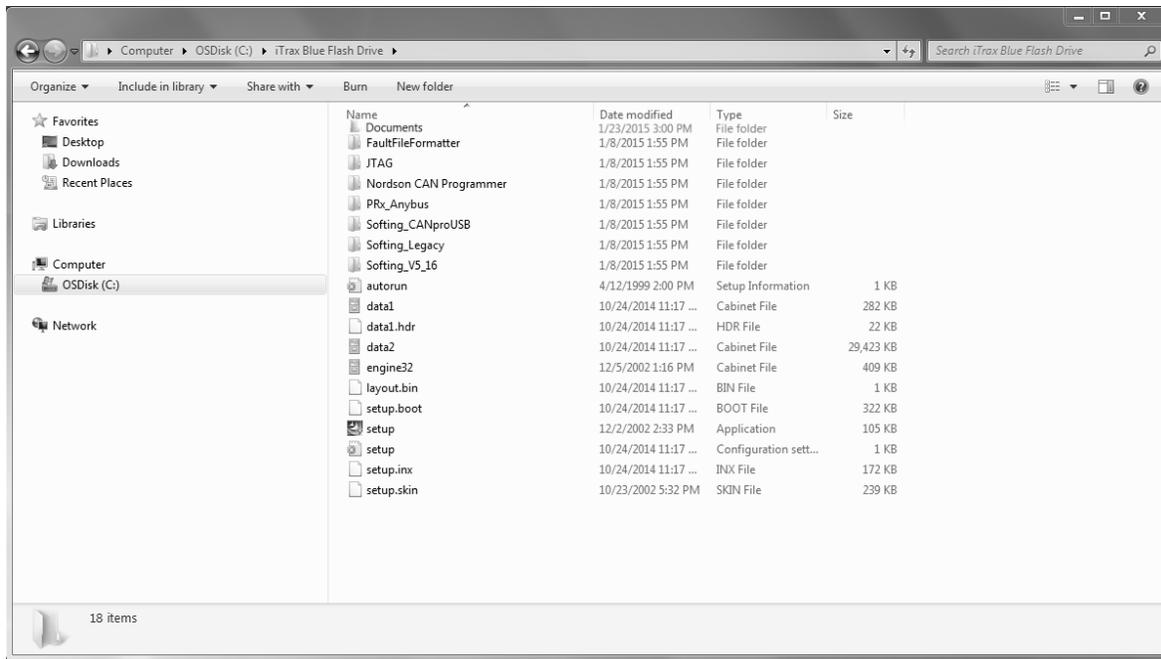

Figure 7 Contents of Blue Flash Drive
5. See Figure 7. **Verify** the contents of the newly created folder.